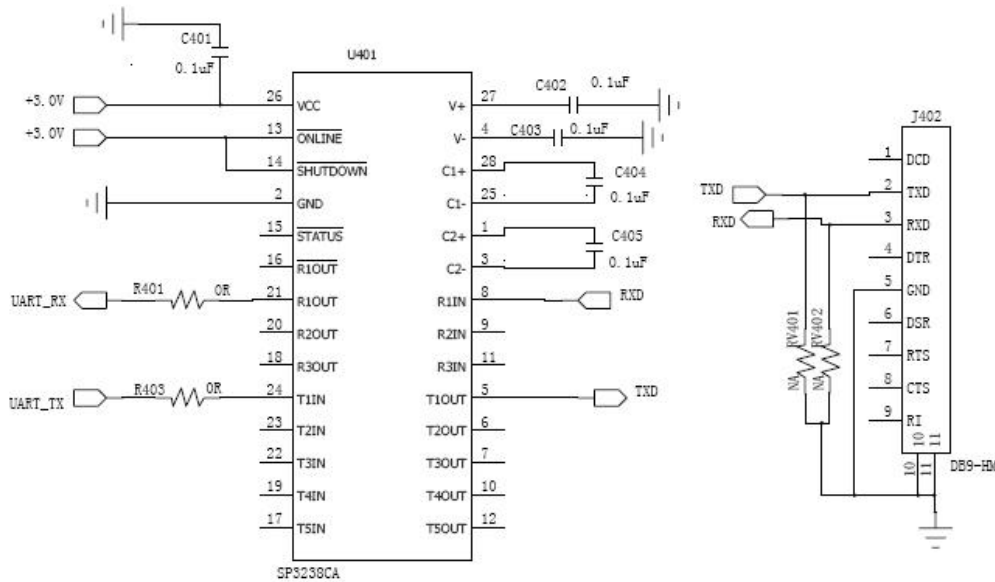

Figure 2-12 The reference circuit of UART interface
The reference circuit of UART interface is shown in figure 2-12.
- 1) The LED control pin connects to the cathode of LED. And the anode of LED connects to the +3.3v power in figure 2-12.
- 2) The value of electrical current must be below than 10mA. And the reference value is 5mA. So the current-limiting resistor may be used. Just like the resistor R14 in figure 2-12